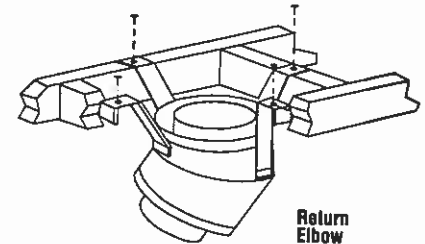

Figure 39
**Step 5.** Secure support straps to framing members by nailing under tension in shear (Figure 39).